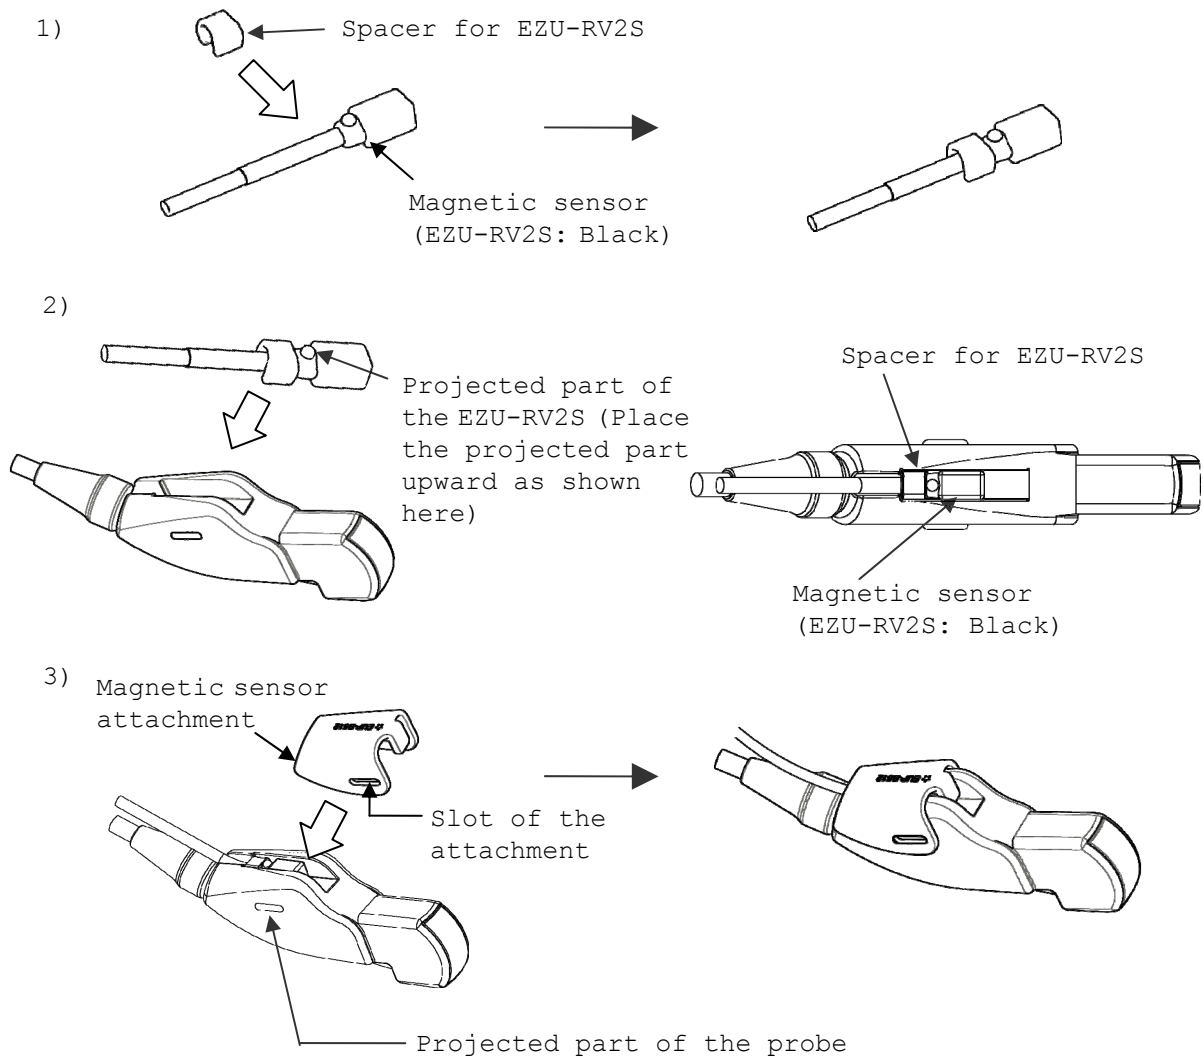

Fig.4 How to attach the Magnetic sensor attachment
- 2) Attach the Magnetic sensor into the probe with the correct direction as shown in Fig.4.